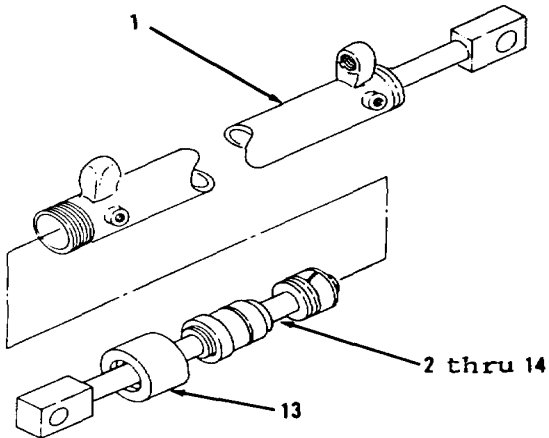
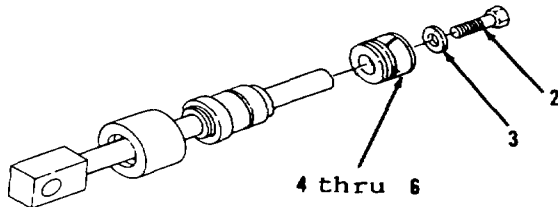
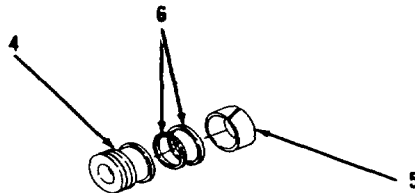

Figure 17-23.
Figure 17-24.
Figure 17-25.
1. Using suitable chain wrench, loosen crown (13, Figure 17-23).
2. Remove items 2 thru 14 as an assembly from cylinder (1).
3. Remove bolt (2) and washer (3, Figure 17-24).
4. Remove items 4 thru 6 as an assembly.
5. Remove ring (5) and seal assembly (6) from piston (4, Figure 17-25). Discard seal assembly (6).
5. Using seal expander, install new seal assembly (6) and ring (5) on piston (4, Figure 17-25).
6. Install items 6 thru 4 as an assembly on rod assembly (14, Figure 17-24).
7. Install washer (3) and bolt (2). Apply thread lubricant to threads of bolt (2) and tighten bolt (2) to 800 ft-lb torque.
8. Using clean grease, lubricate outside of head (7), inside of crown (13) and inside of cylinder (1, Figure 17-23).
9. Install items 14 thru 2 as an assembly on cylinder (1).